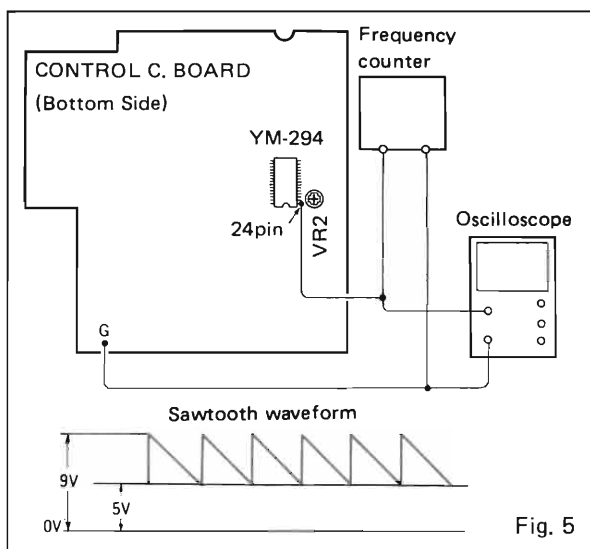

Fig. 5
1. With a frequency counter and oscilloscope connected to Pin 24 of IC-2 as shown in Fig. 5, confirm that the frequency is within  $128\text{Hz} \pm 1\text{Hz}$  and that a sawtooth waveform is obtained. (This condition will be considered the "specified condition".)